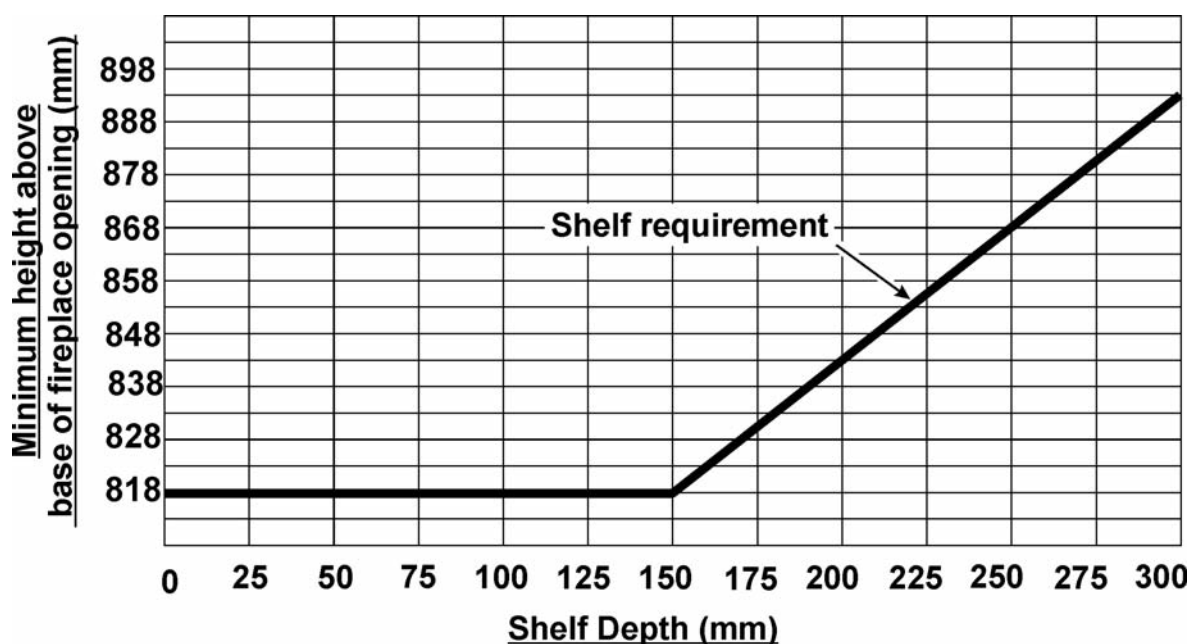

Figure 1. Combustible shelf clearances
**Do** provide a minimum clearance as shown in Figure 1 above the base of the fireplace opening to any shelf made of wood or other combustible material.
• *For a shelf deeper than 150mm: 818mm + 12.5mm for every 25mm depth over 150mm (See Figure 1).*